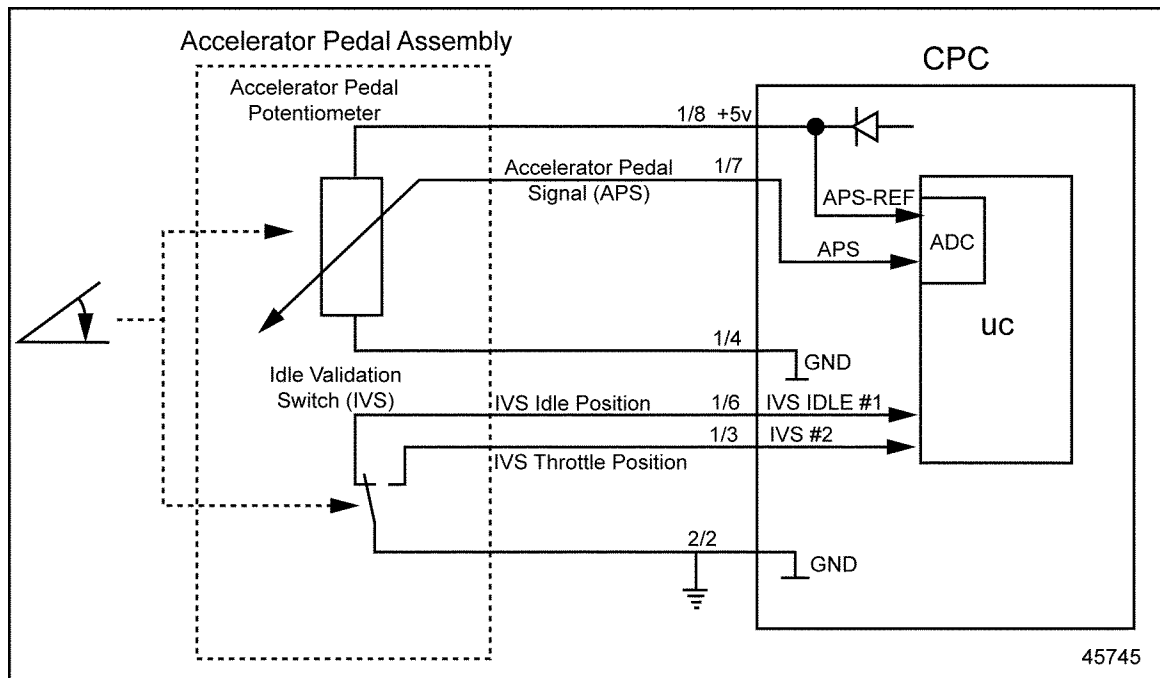

Figure 42-1 Accelerator Pedal Assembly Installation
1. Disconnect the Accelerator Pedal (AP).
3. Measure the voltage between pins 1 and 3 of the AP harness connector. See Figure 42-1.